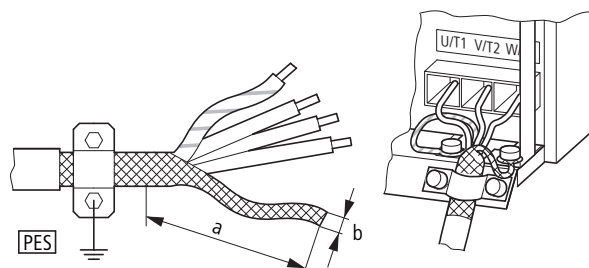

Figure 39: Connection with twisted cable screen
- ▶ Connect the screening, on both sides and across a large area (360° overlap), to the protective earth (PE)  $\oplus$ . The power screening's protective earth (PES) connection should be in the immediate proximity of the frequency inverter and directly on the motor terminal box.
- ▶ Prevent the screening from becoming unbraided, e.g. by pushing the opened plastic sheath over the end of the screening or with a rubber grommet on the end of the screening. As an alternative, in addition to a broad area cable clip, you can also twist the shielding braid at the end and connect to protective ground with a cable clip. To prevent EMC interference, this twisted screening connection should be as short as possible (→ Figure 39).
Alternatively, in addition to the broad area gland plate, you can also twist the screen braid at the end and connect to the protective earth with a cable lug. To prevent EMC disturbance, this twisted shielding connection should be made as short as possible (→ Figure 39, page 68).